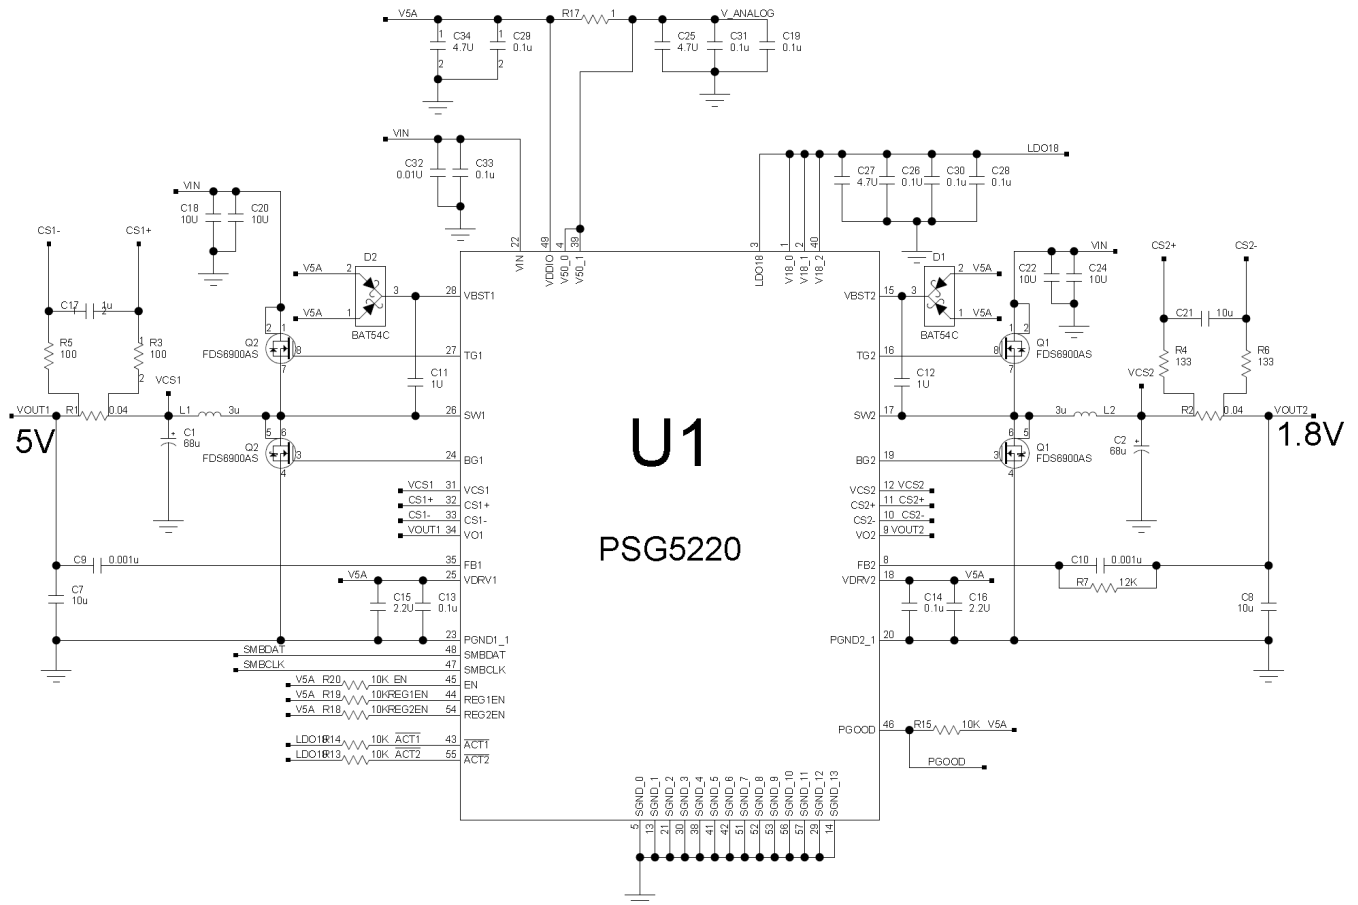

Figure 2: PSG5220 5V and 1.8V Application Circuit
Figure 2 shows the PSG5220 5V and 1.8V application schematic. Other PowerSage PMIC application circuits will be similar.
- It should be noted that the PSG5220 is designed for a 5V nominal output. To achieve the 1.8V necessary for memory, resistor R7 from Figure 2 must be placed in parallel with feedback capacitor C10.